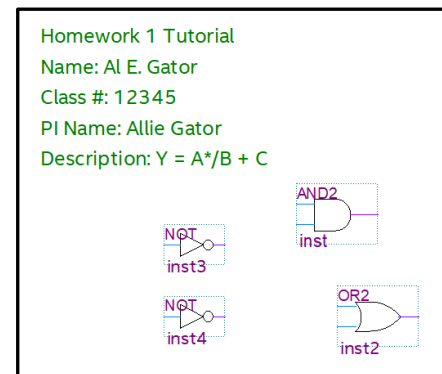

Figure 2: BDF with logic symbols
13. Rearrange your gate symbols in approximately the placement you would like for the logic diagram you are trying to construct. You can move a component by selecting it with your mouse, and either holding down the left mouse button and moving it to another location on your bdf or using your up/down/left/right arrow keys. The window should look similar to Figure 2.